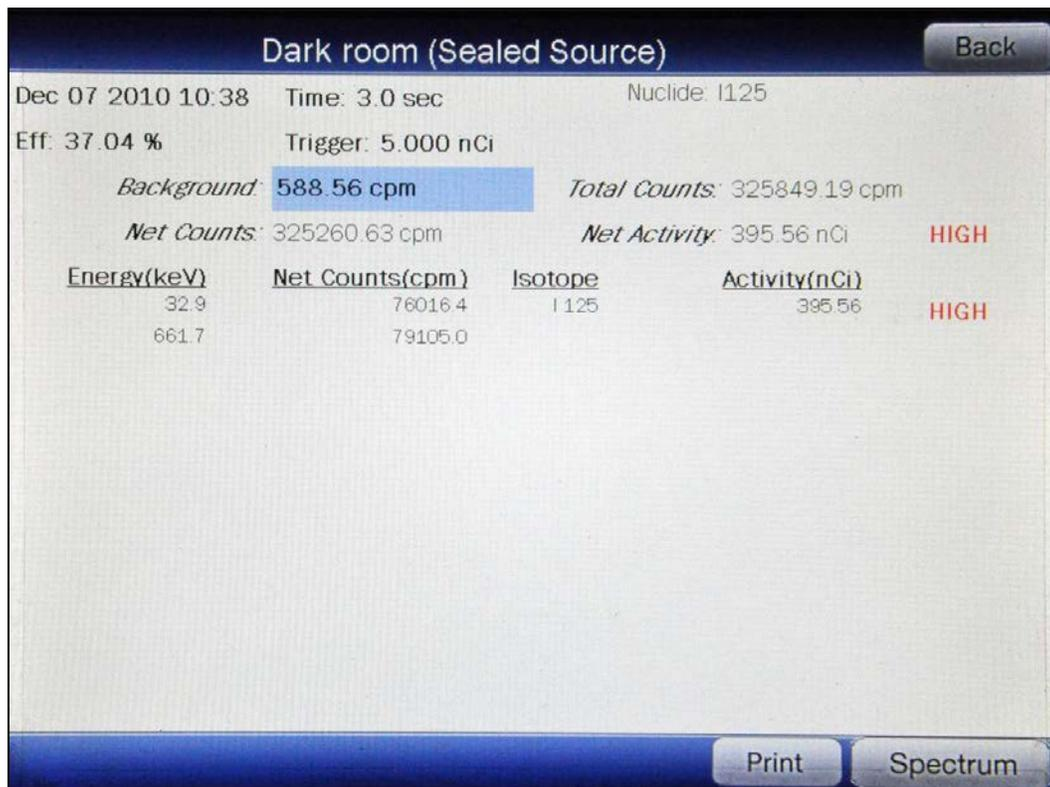

Figure 9-9 Wipe Measurement Results Screen
- To view the Wipe Report, touch the **REPORT** button. Figure 9-9 Wipe Measurement Results Screen will appear displaying the measurement results.
To return to Figure 9-9 Wipe Measurement Results Screen, touch the **BACK** button.